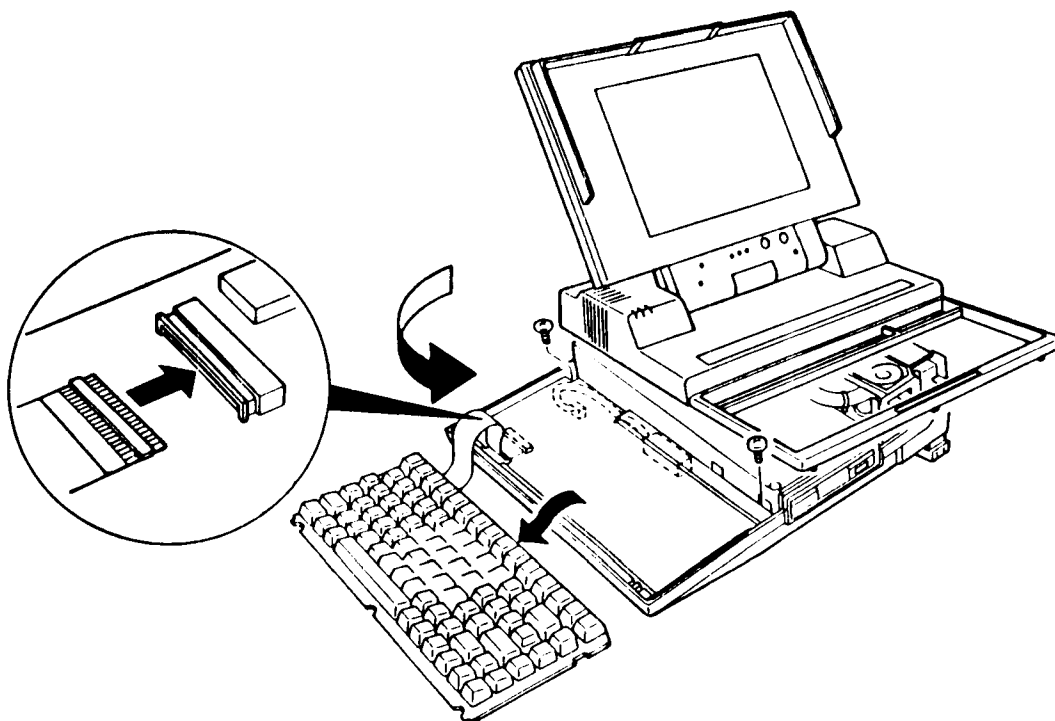

FIGURE 2-8 Keyboard Connector Check
3. Lift up the keyboard and check that the keyboard cable is securely connected to the system board (Refer to figure 2-8.) If it is securely connected, go to PROCEDURE 4.